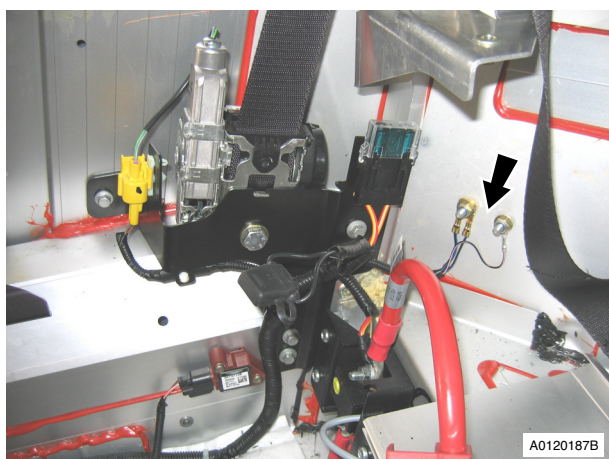

Fig. 16
50. Remove earth headers (x2) (see Fig. 16).